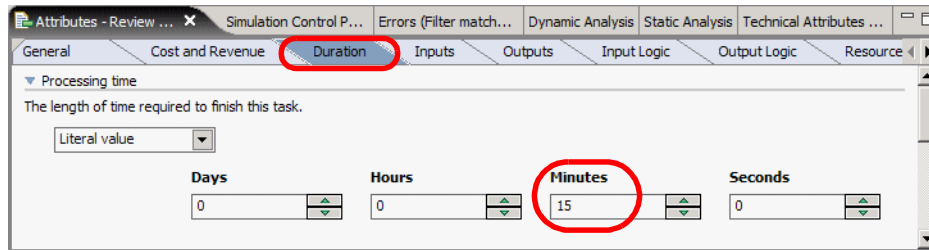

Figure 7-7 Activity duration for the Review Order activity
- ▶ In the process flow select the activity, select the *Duration* tab and enter the duration value for each of the Order Handling Future 1 process activities as shown in Figure 7-7 using the data from Figure 7-3 on page 126.